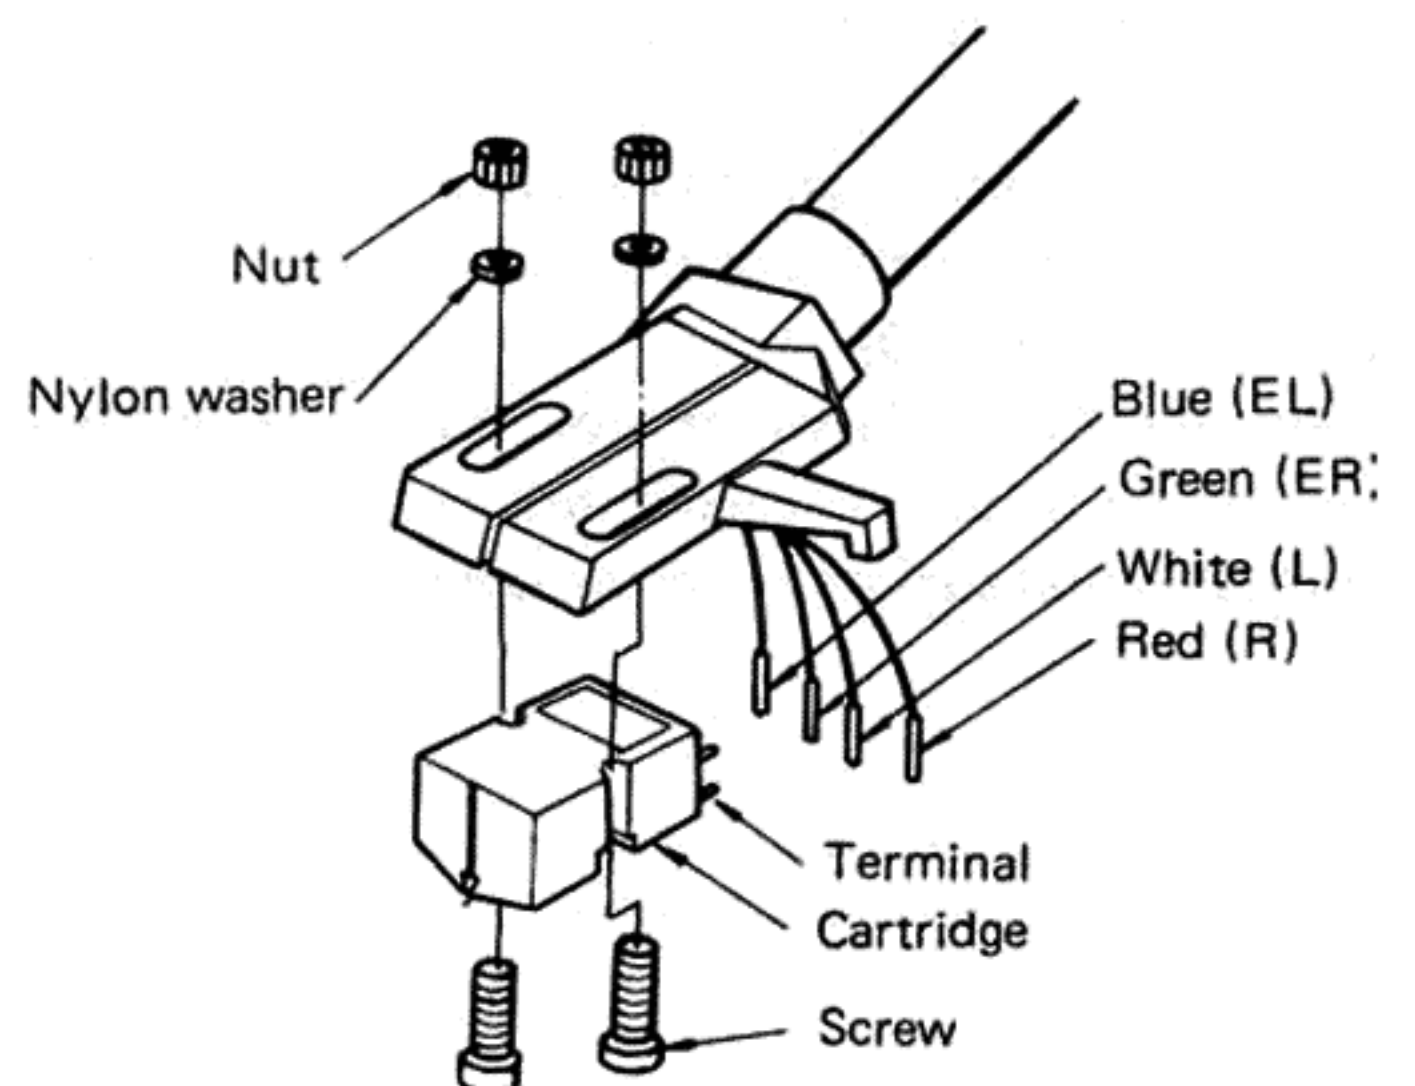

Fig. 6
- (3) The lead wires of the head shell section are color coded as in Fig. 6. Referring to the markings on the cartridge or the cartridge instruction manual, connect the lead wires to the corresponding cartridge terminals carefully, using tweezers if necessary.
- Are the cartridge and headshell connections properly made? Refer to Fig. 6 on page 7